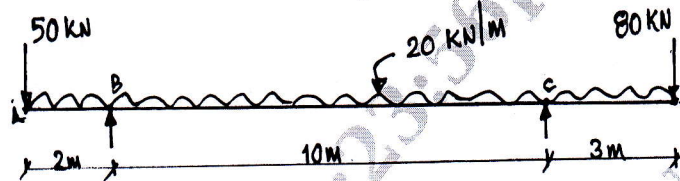

Fig Q4(b)
b. Draw SFD and BMD for the beam shown in Fig Q4(b). Indicate the salient values.